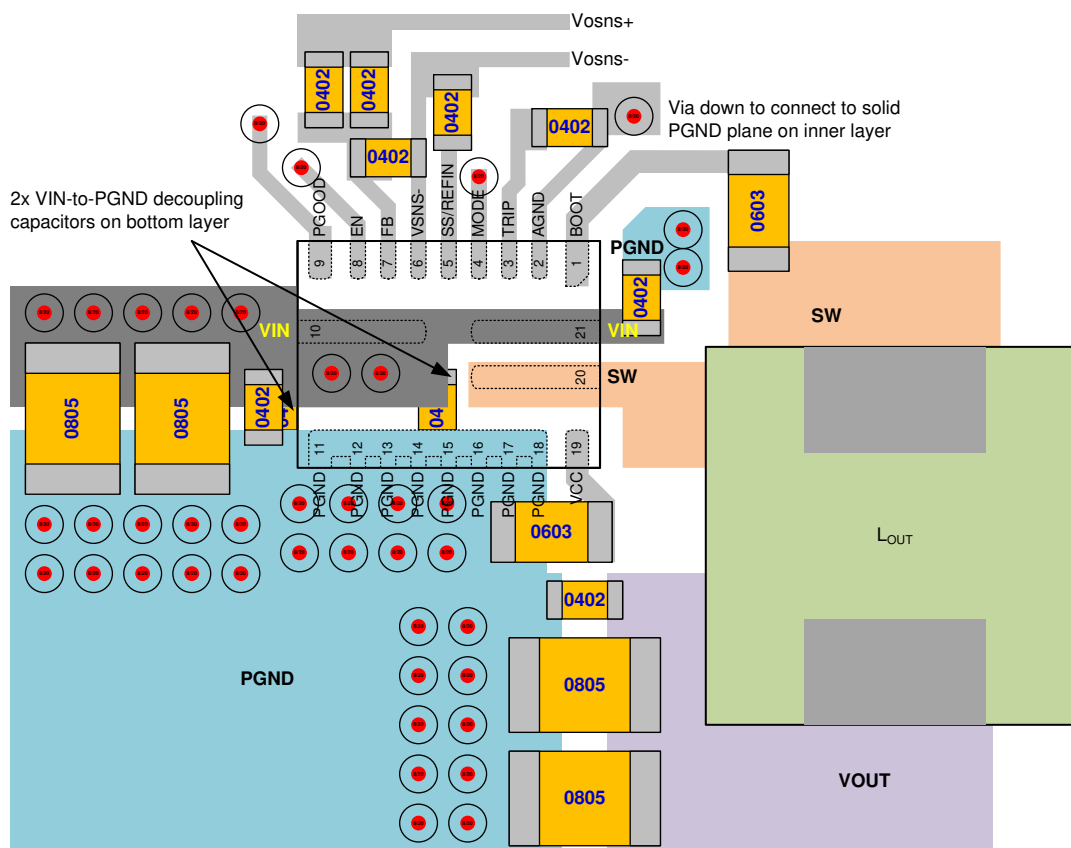

Figure 56. Layout Recommendation
- See Figure 56 for the layout recommendation.